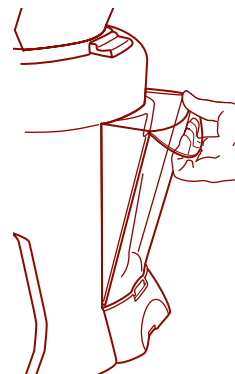

Figure 7
7. To remove the Ice Melt Reservoir hold the unit still and pull straight out on the handle. *Figure 7*